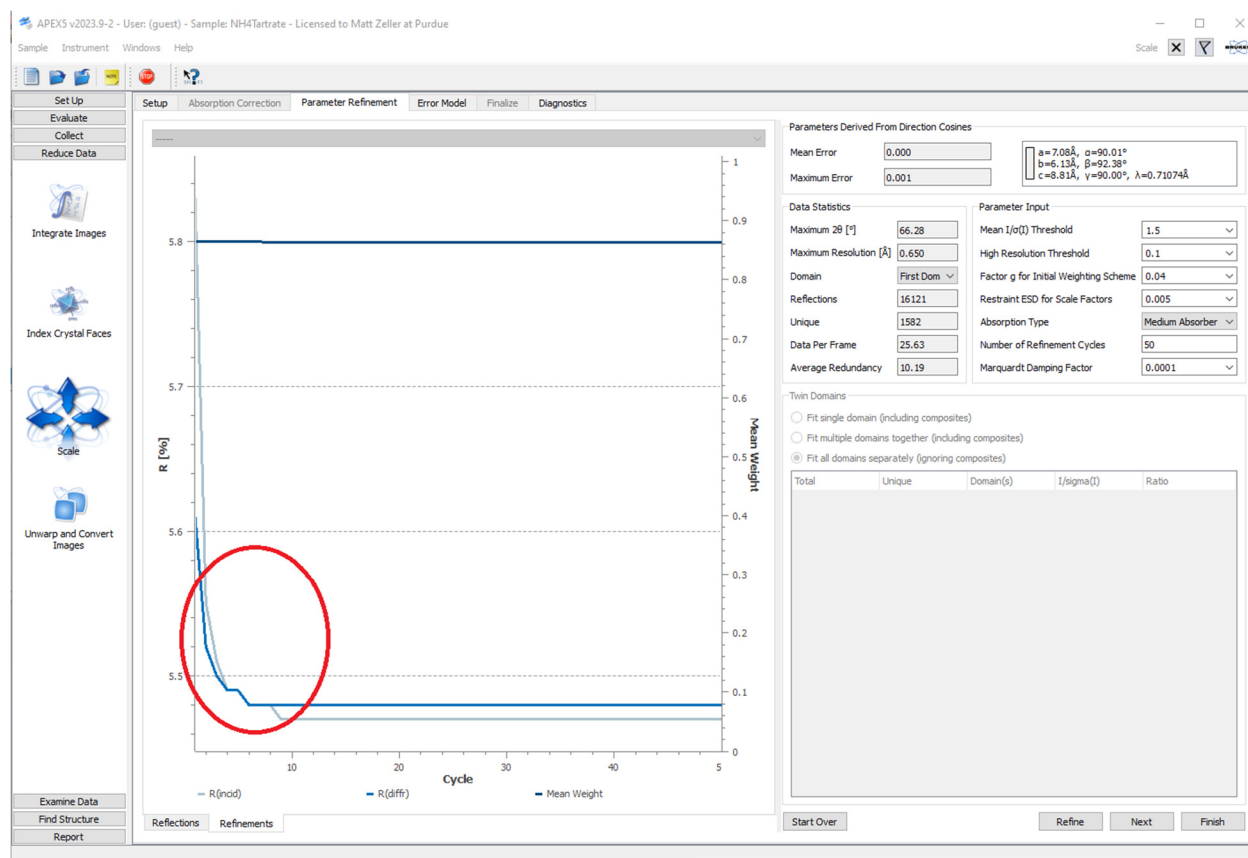

Figure 26, Absorption Correction window (second Scale Window) after refinement
- Click Refine, wait for the refinement to finish and inspect the results. The parameter refinement curve should show a smooth and steady decline (as in Fig. 26) and the final R value should be reasonably low. Large up and down fluctuations in $R[\%]$ combined with higher than expected R values could be a sign that scaling and absorption correction effects are highly correlated. This will seldom be a problem with a large beam and penetrating, little absorbed $\text{MoK}\alpha$ radiation. In the rare case when the refinement results appear less than ideal, try dampening scaling by selecting a higher value for Restraint ESD for Scale Factors and repeat the parameter refinement (click Refine once more). Default is 0.005, the maximum allowed value is 0.02.